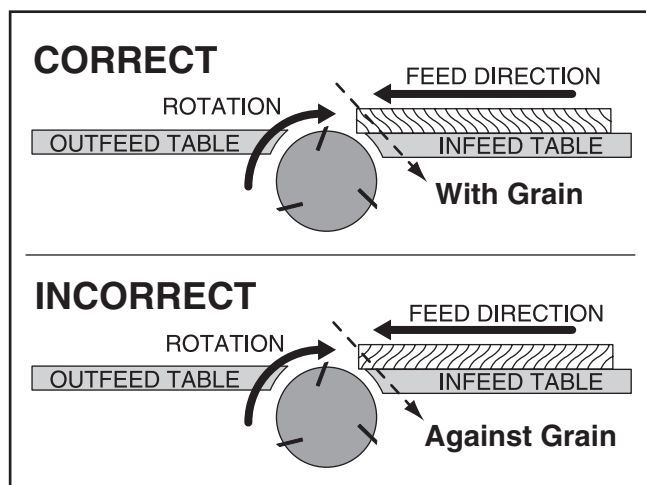

Figure 19. Proper grain alignment with the cutterhead.
- **Jointing and surface planing with the grain is safer for the operator and produces a better finish.** Cutting against the grain increases the likelihood of kickback and workpiece tear-out. **DO NOT** cut against the grain! Cutting with the grain is feeding the stock across the cutterhead so the grain points down and back, as viewed from the front edge of the stock (see **Figure 19**).